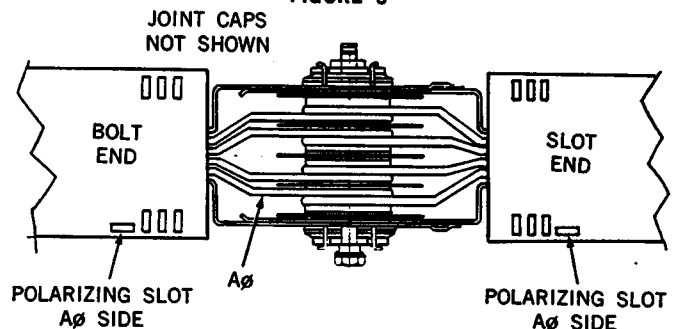

FIGURE 10
7. Slide the joints together, making sure as the bars interleave that the joint side covers on the slot-end pass inside the joint side covers on the bolt-end. Figure 10. For 3-pole joint assemblies also make certain that the slot-end joint side cover passes between the bolt-end joint side cover and the C-phase insulator. Edges of the joint sides must be flush.